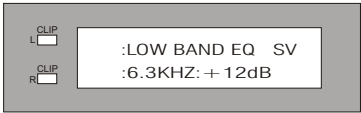

Fig.2.7: Equalizer programs
(5) PEQ/RESET- Parametric EQ & Reset Button. Press this button shortly to activate Parametric EQ Octave, 2nd line will display frequency & gain. " : " indicates editable program item is in use (as Fig 2.7). First press this button, " : " will blink in 1st line display, turning Knob to select any item from "LOW BAND EQ", "MID BAND EQ", "HIGH BAND EQ", Press this button again, "F" from the 2nd line display will blink, able to select frequencies from "250Hz~16kHz " by Knob. Press this button again, " : " from the last will blink, at this time the user is able to select GAIN from "-12dB~+12dB". Press this button again to go back to the 1st line function. Hold this button for more than 3 seconds to RESET function. Present program will be reset to factory default settings (as Fig 2.4).